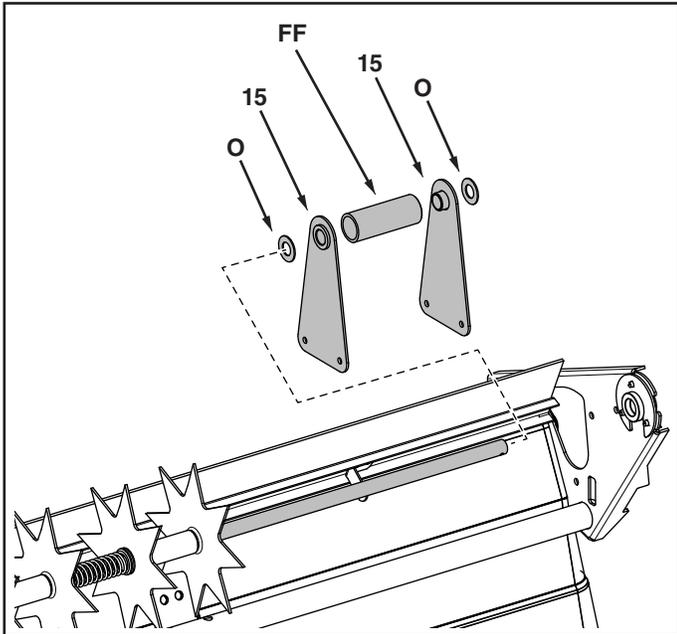

FIGURE 9
11. Assemble two 5/8" washers (O), the two center braces (15) and the 3.2" spacer (FF) onto the axle. The flat side of the braces should face away from the spacer. See figure 9.